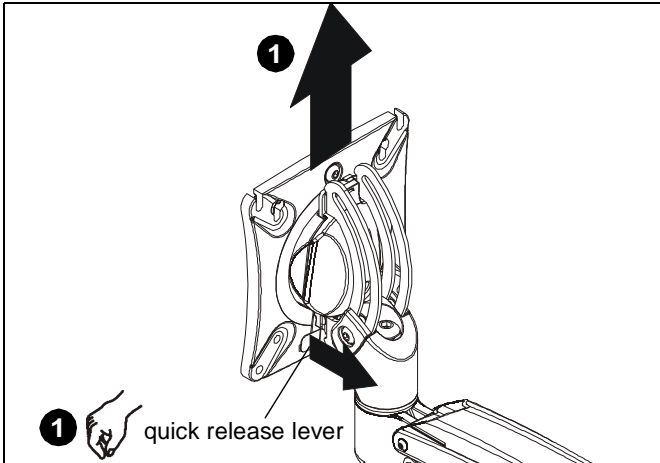

Figure 11
1. Remove quick release faceplate from mount by pulling quick release lever and sliding faceplate off mount. (See Figure 11)